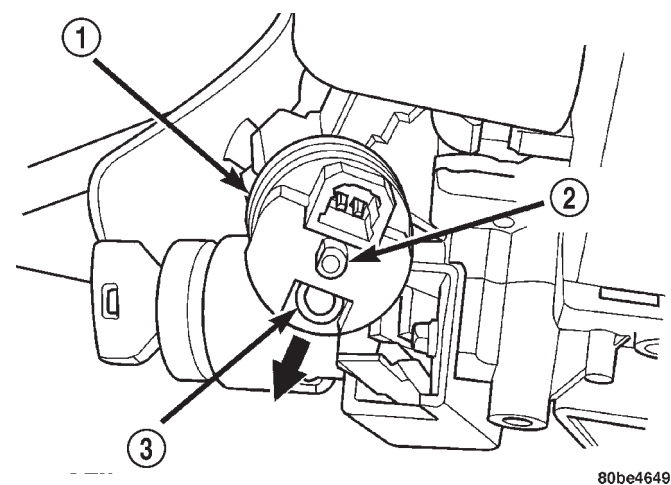

Fig. 71 Solenoid Retainer Clip Removal
(8) Remove the retainer clip from the end of the BTISI solenoid (Fig. 71).
(9) Slide the BTISI solenoid straight off the shift lever mounting stud.